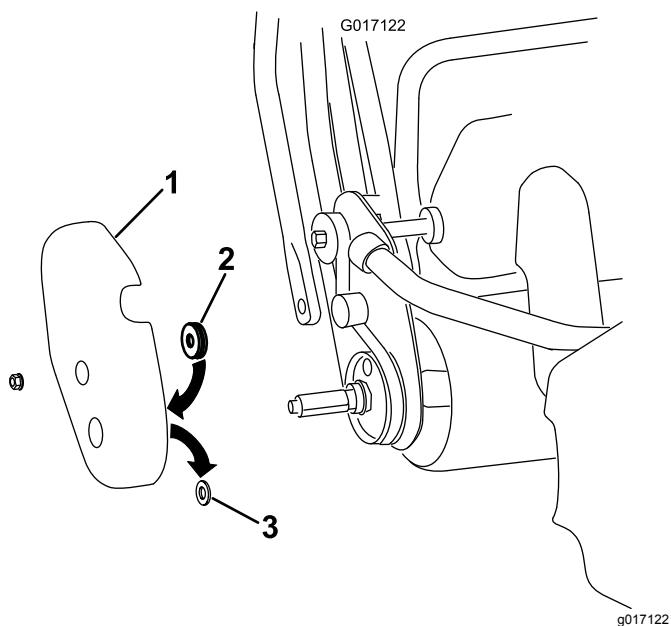

Figure 5
- Remove the right side drum cover from the machine (Figure 5).
- Remove and discard the rubber grommet from the axle hole in the drum cover (Figure 5).
- Affix the felt seal to the inside of the cover positioning it around the axle hole (Figure 5).